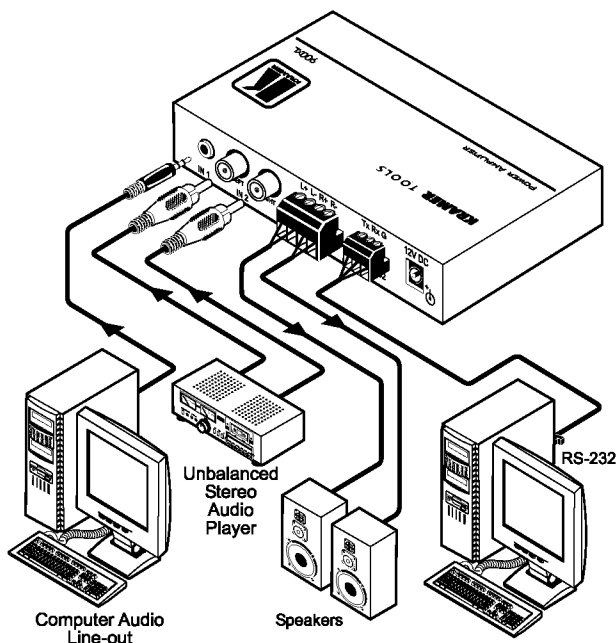

Figure 3: Connecting the 900xl Power Amplifier
To connect the **900xl**, as illustrated in *Figure 3*, perform the following:
4. Connect the 12V DC power adapter to the power socket and connect the adapter to the mains electricity (not shown in *Figure 3*).
- To choose audio input source 1 (the PC line-out as shown in *Figure 3*), press INPUT 1 button.